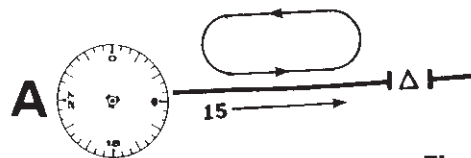

Figure 28-28
- Refer to figure 28-28. You arrive at the 15 DME fix steering MH 350 with an ATC clearance to: "hold west of the one five DME fix on the zero eight six radial of the XYZ VORTAC, five mile legs, left turns." What is the correct procedure?